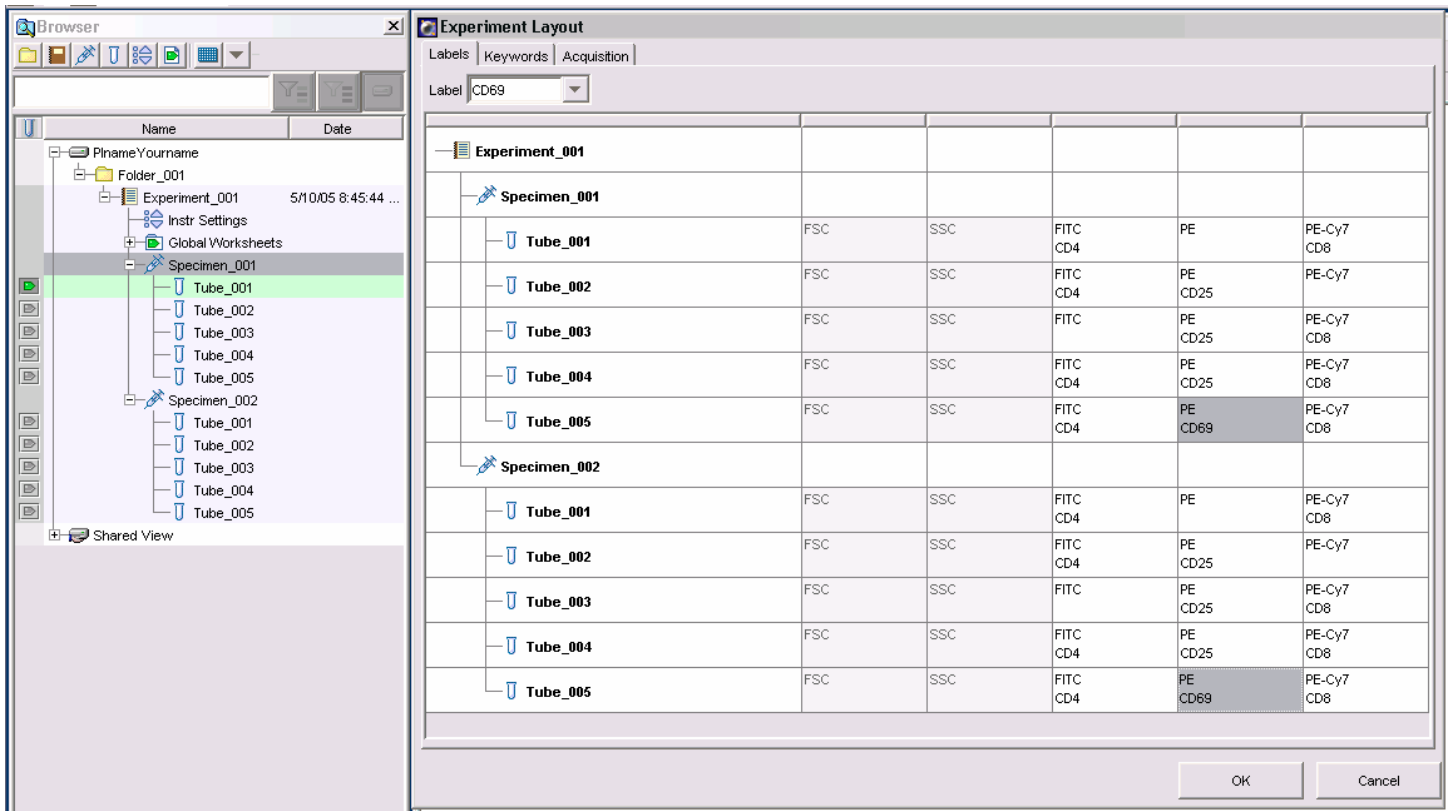

Figure 13
- **Figure 13** shows an example of the Experiment Layout dialog for a sample experiment with two Specimens with five Tubes in each Specimen. Note that the experiment contains Fluorescence Minus One (FMO) controls.
- In multi-color flow cytometry, the absolute background in a given channel, is a function of all the channels that spillover and require compensation in the channel of interest. Extremely bright fluorophores can add to the level of background in a corrected channel that will limit the sensitivity in that channel. The proper way to evaluate the background is to have a control that is all the other stains that you will be using, except for the color detected in that channel, hence the name "**Fluorescence Minus One Control**" (FMOC). This control is a must if you are trying to evaluate very dim populations in multi-color space. See **Figure 13** for an example of how to set up an experiment with FMO controls.